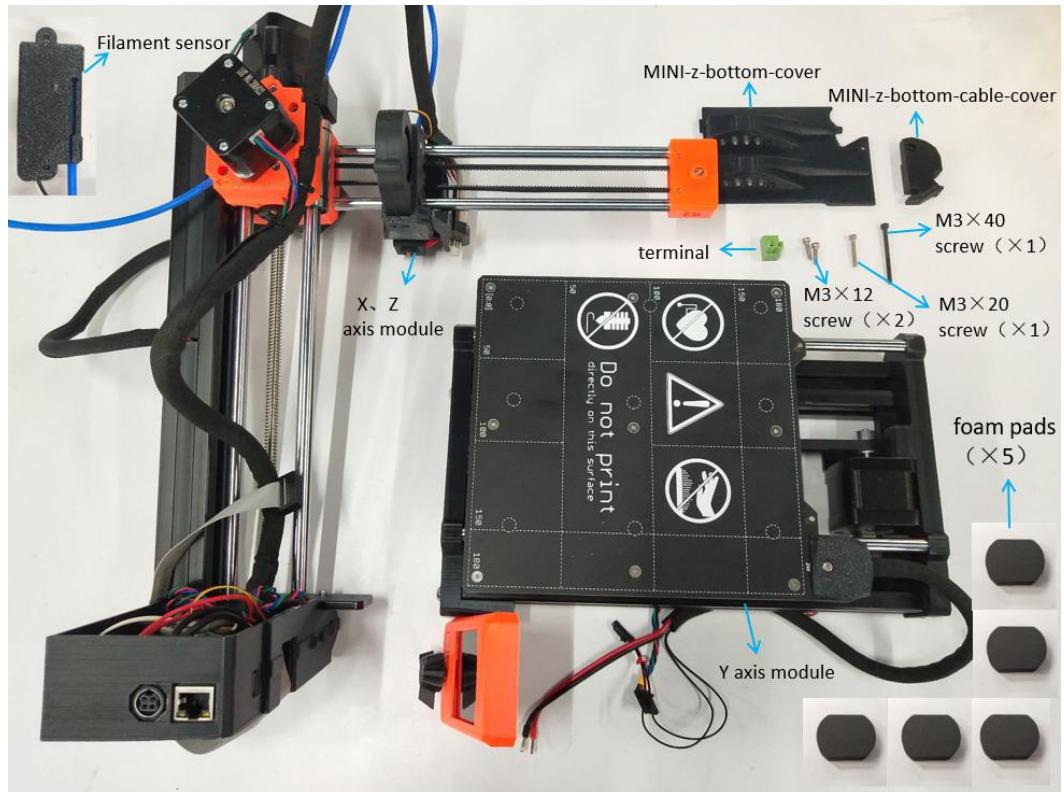

Figure 5.1.1
**Step 5-1-1:** As shown in Figure 5.1.1, prepare the materials and check whether the quantity of materials is correct, and prepare for the next installation.